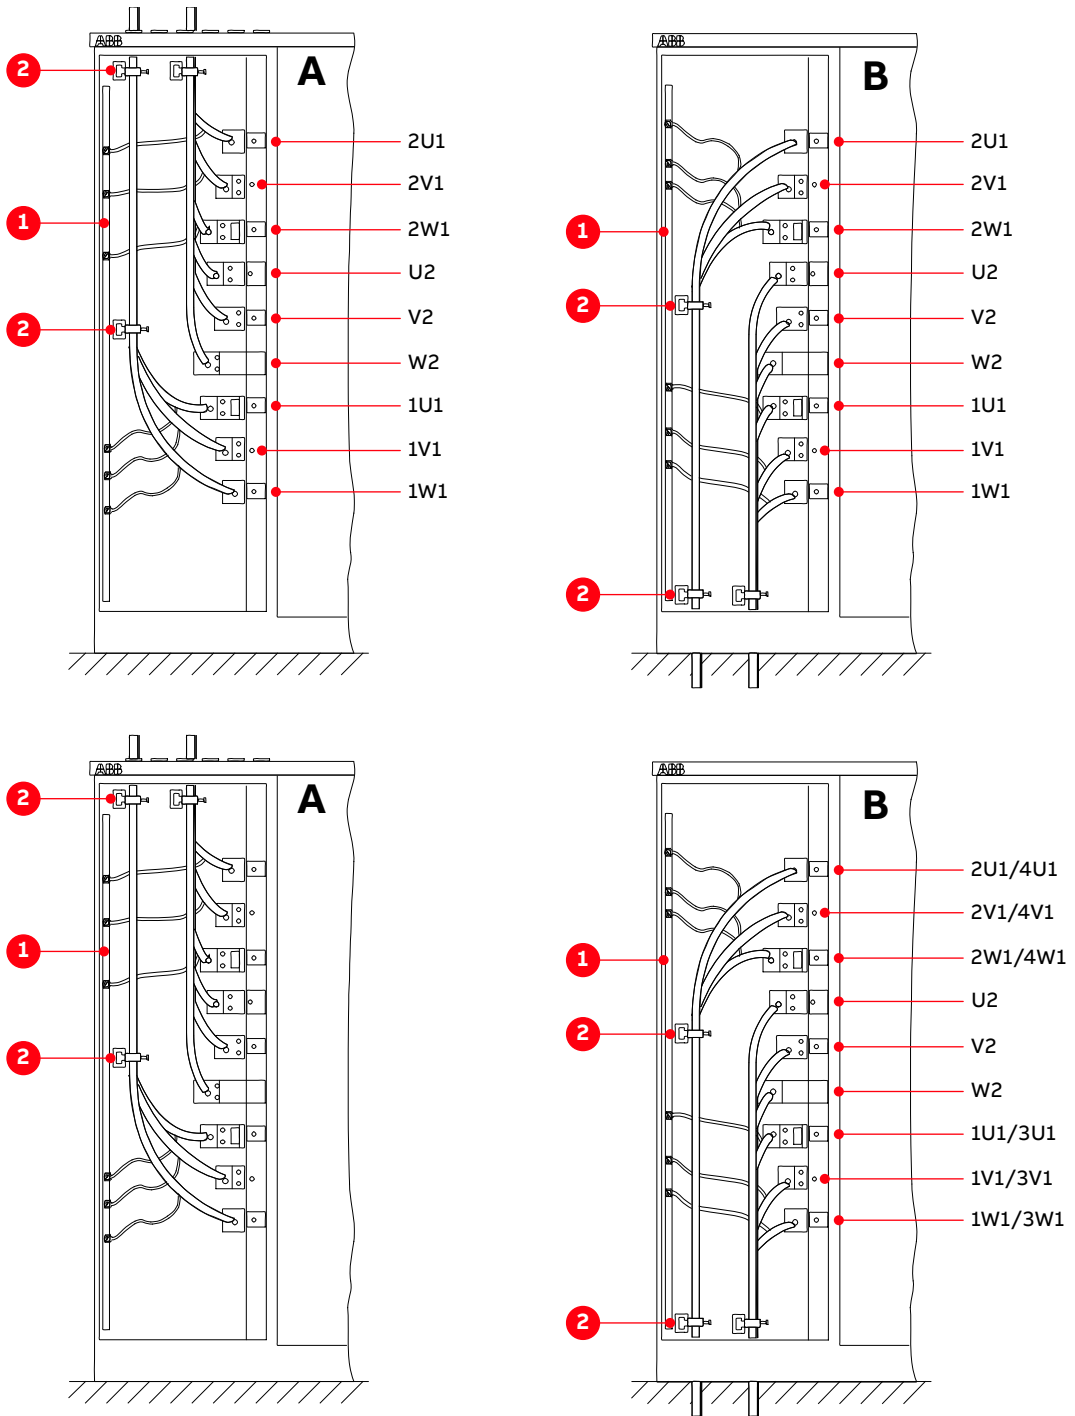

Figure 7-9: Power cable terminals in 12-pulse ACS1000 (top row) and 24-pulse ACS1000 (bottom row)
- 1U1, 1V1, 1W1, 2U1, 2V1, 2W1 (12-pulse and 24-pulse drive, Fig. 7-9)
- 3U1, 3V1, 3W1, 4U1, 4V1, 4W1 (24-pulse drive, Fig. 7-9)
- Connect the motor cables to busbars U2, V2, W2 (Fig. 7-9).
- Connect the screens of all conductors and the shields of all cables to the PE ground busbar (1 in Fig. 7-9).
- Tie the cables to the strain relief rails (2 in Fig. 7-9).